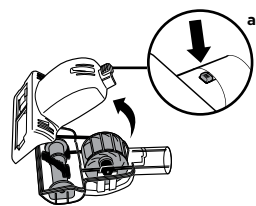

Fig. 25
- 1 Slide the locking latch **(a)** forward and gently tilt brush housing upward to remove. **(Fig. 25)**